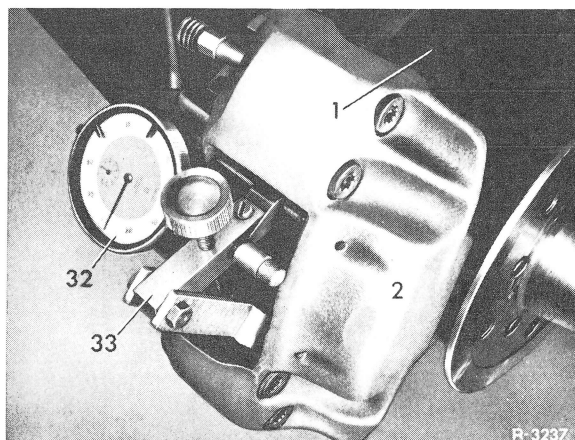

Fig. 3
**8** Measure lateral runout of brake disc on outer dia. (Fig. 3).